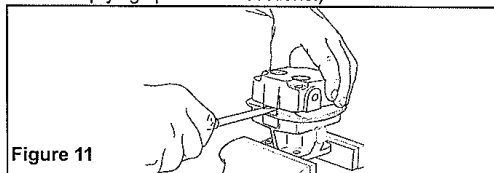

Figure 11
6. If Motor End Plate will not lift off easily, use a small screwdriver to carefully pry apart the boss portion of the End Plate and Gerotor Housing until free (See Figure 11). If Gerotor Housing will not lift off easily, carefully pry apart the boss area between the Gerotor Housing and the Motor Body. (It may be necessary to alternate sides when prying apart Motor sections.)